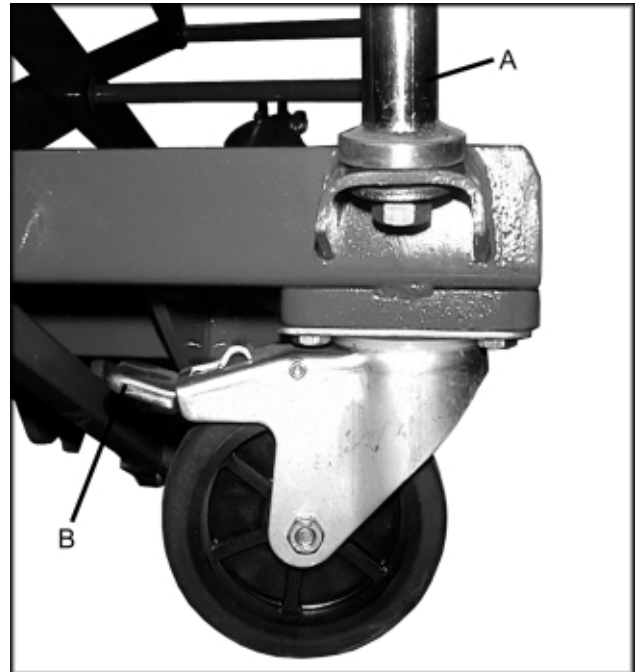

Fig. 1
1. Attach the handle (A, Fig. 1) to the frame using two hex cap bolts, two lock washers, two flat washers. Tighten with a 19mm wrench.
**Note:** The two rear casters can be locked so they do not rotate. Press foot lever (B, Fig. 1).